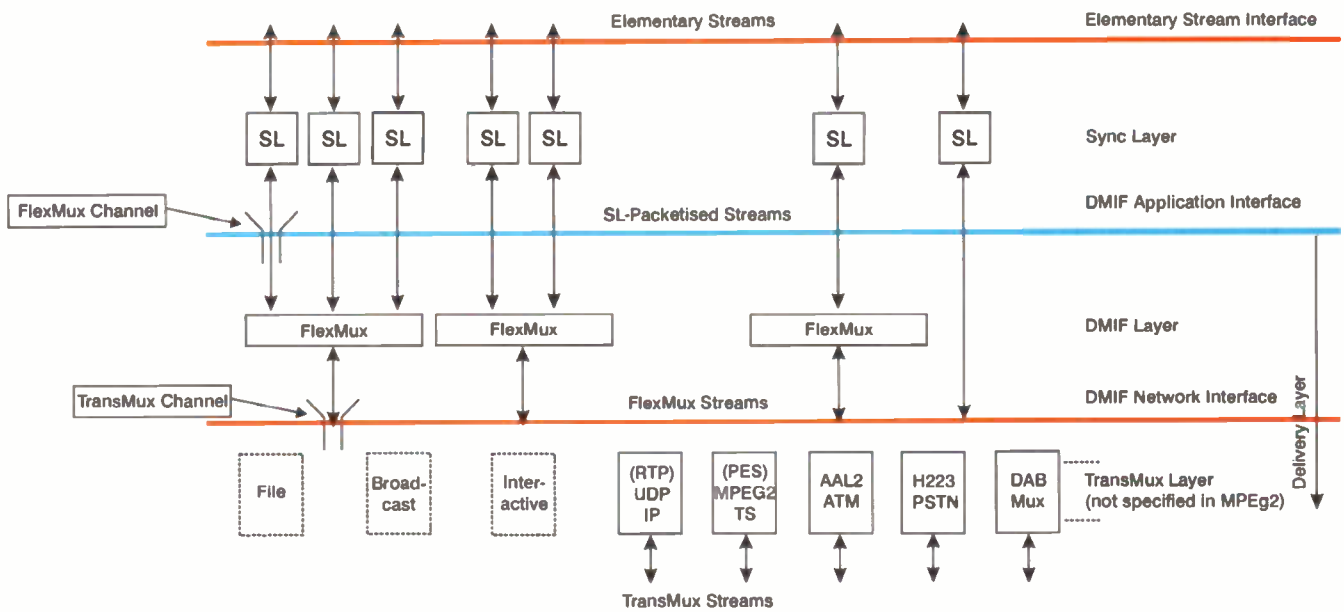

Figure 12. MPEG-4 data streams.
Streamed data is carried in one or more elementary streams; with an object descriptor (OD) to identify all the streams that are associated with one object (Figure 12). Each stream also has its own descriptors for configuration information, such as determining decoder resources and timing. A synchronisation layer identifies the different parts of elementary streams (video or audio frames, etc) which will have been time stamped, and synchronises all the various elements. There is also a delivery layer, which contains two multiplexed layers - FlexMux and TransMux. The Flexible (content) Multiplex can carry groups of interleaved elementary streams; while the Transport Multiplex models transport protocols to enable MPEG-4 to be used in a